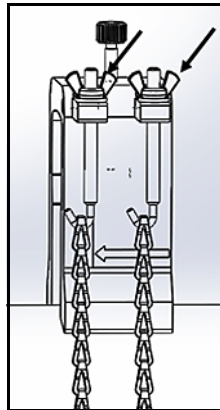

Figure 40: Secure the Yoke
- Tighten the nuts to secure the yoke to the pipe (see *Figure 40* below).